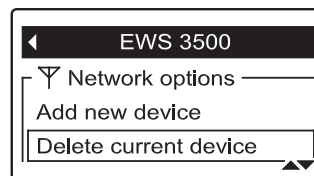

FIG. 125
3. Press the DOWN (▼) button to scroll through the menu options until **Delete current device** is highlighted in a box (See Figure 125).